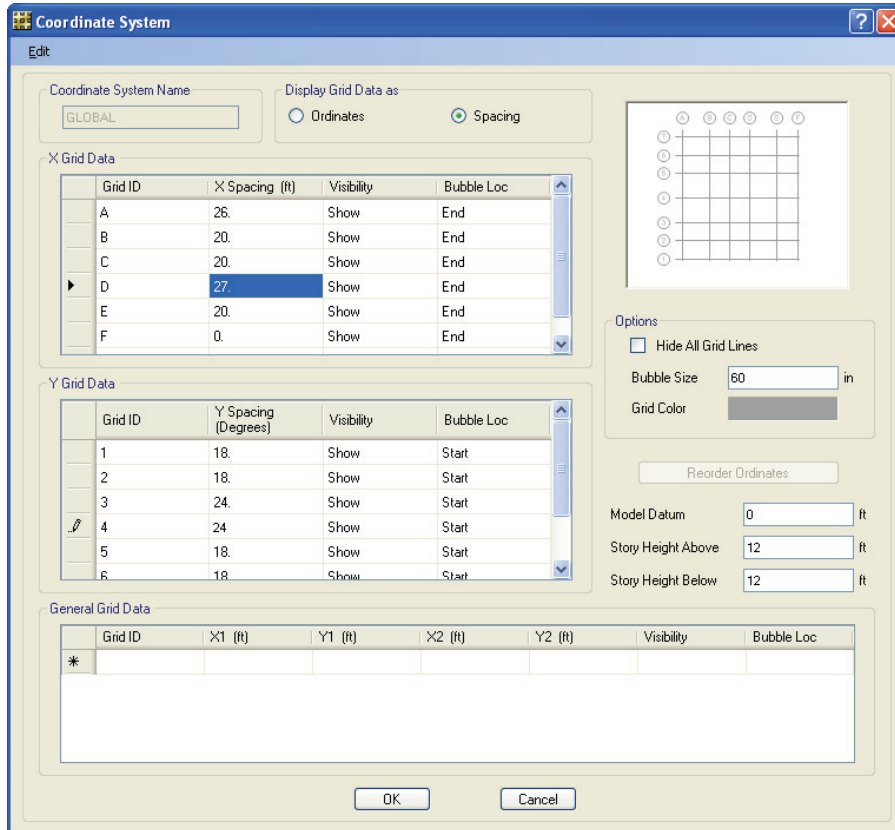

Figure 5 Coordinate System form
- G. Click the **Edit Grid** button to display the form shown in Figure 5. The Coordinate System form is used to modify and edit the grid definitions, as well as set the top of model datum. It also allows the user to set the display options associated with the grids.